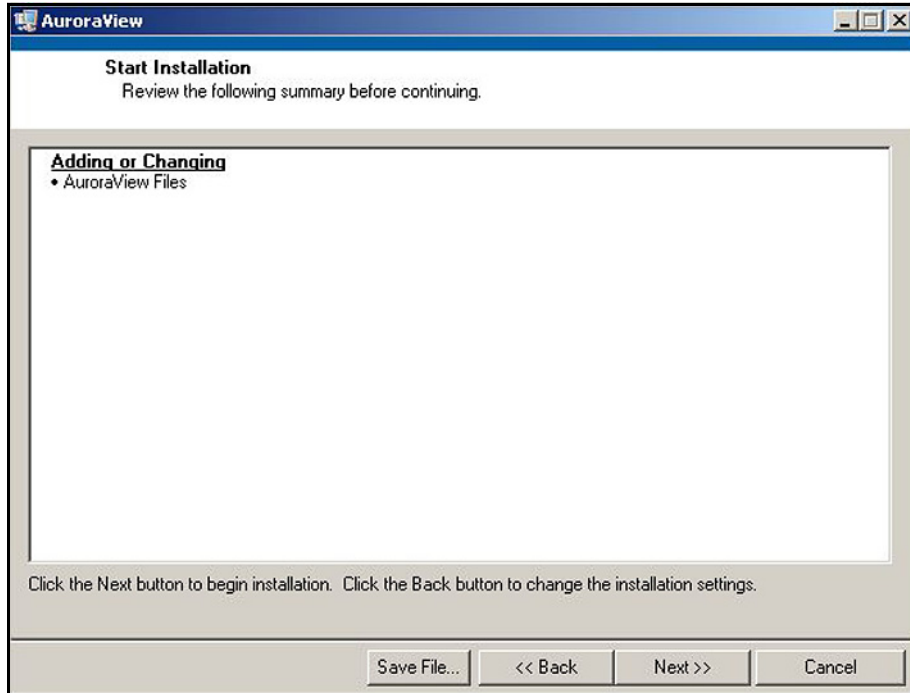

Figure 51: Starting the Installation
7. The next screen (see *Figure 51* below) provides instructions for initiating the installation. When ready, click Next to begin.